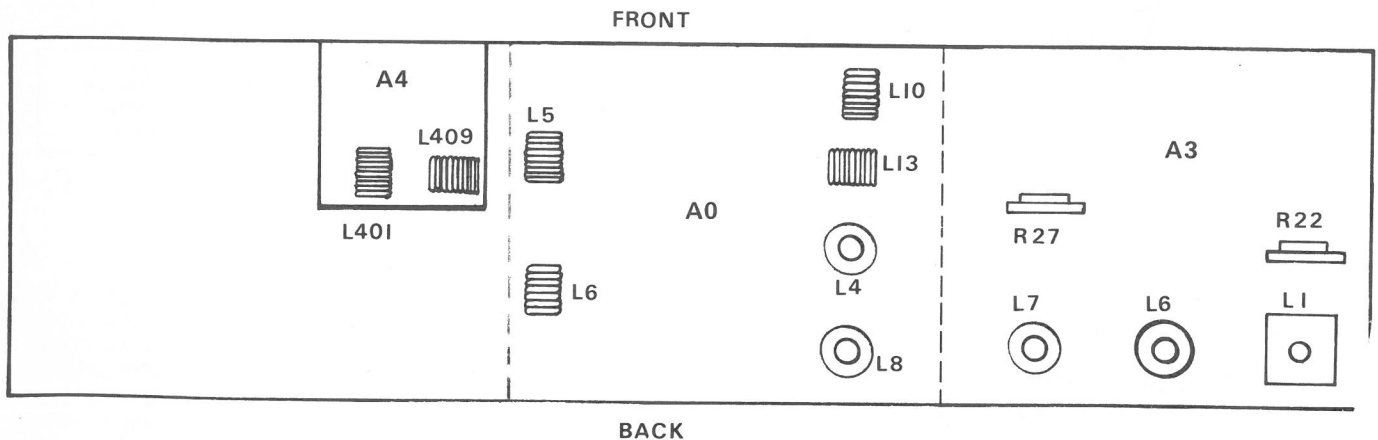

FIGURE 5 PARTS LOCATION DIAGRAM
2. Place the switches in the "Direct" position and tune the field strength meter or spectrum analyzer to the Visual Carrier Frequency. See Figure 5 for parts location. Set the OUTPUT LEVEL control and the AURAL-TO-VISUAL CARRIER RATIO Control at maximum. Set R27 (Aural Board) at mid position. Tune L8, L9, and L10 Low-Band or L8, L9, L10, and L13 High-Band (osc mult) for maximum Visual